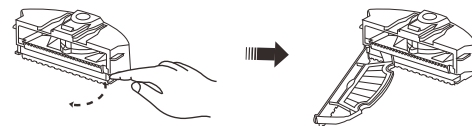

Figure 4
3. Open the bracket and the filter will appear (Refer Fig 4).